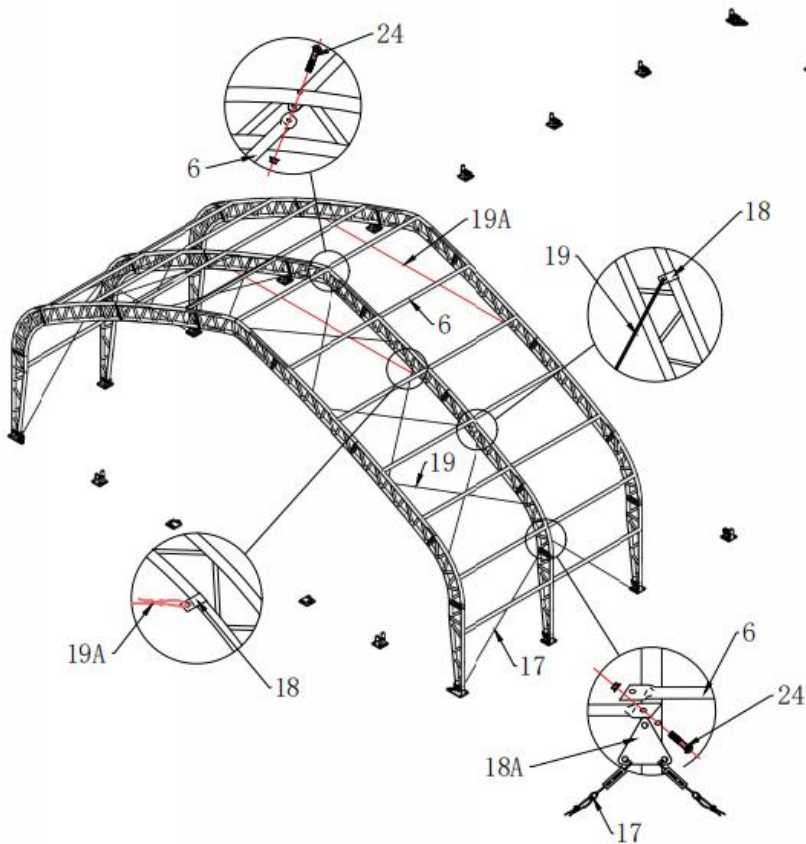

Figure 5
3.As **Figure 5** shown,after installing these two groups of arch frame, please connect the purlin (No.6) between these two groups of arch frame using bolt 10*90mm (No. 24). There are 13 pieces of purlin (No. 6) between each two groups. By turns, after install other groups of arch frame and purlin, the assembly of the main frame is finished.
10*90(No.24) . Assemble steel wire between two arches (No.19) and longitudinal steel wire one the top of each arch (No.19A) by using clip(No.18)(see Figure 5).